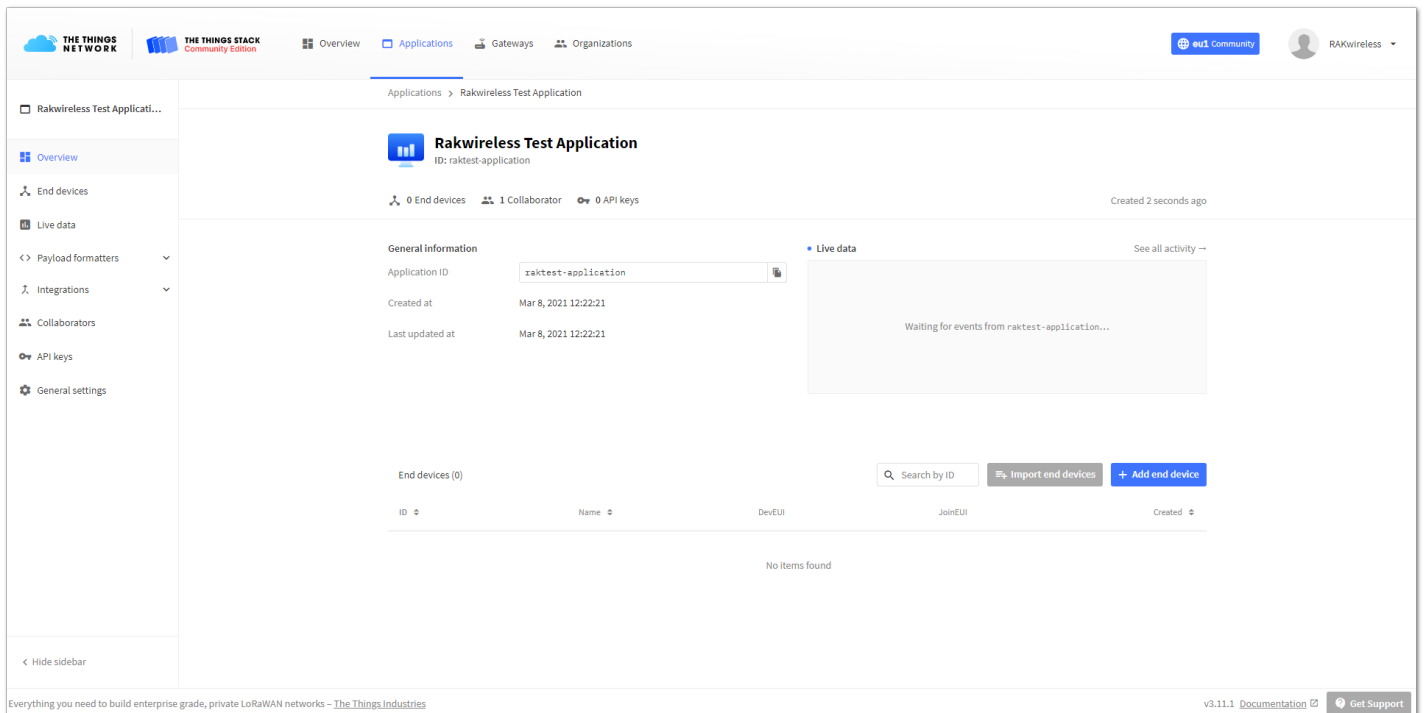

Figure 34: Application Overview
3. After you fill in the information, click **Create application**. If everything is filled in correctly, you will see the page in **Figure 34**.